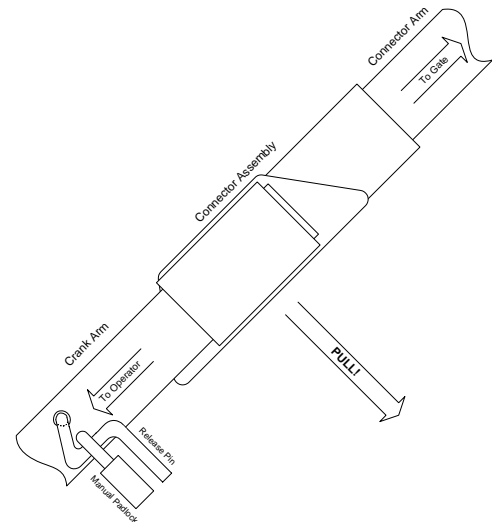
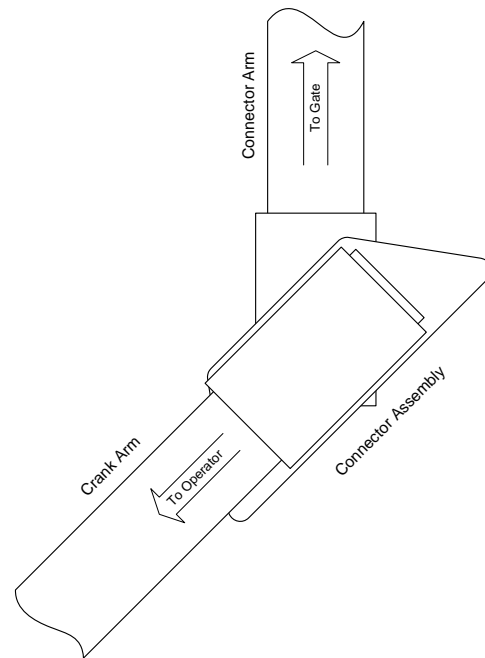

Figure 38
Figure 39
1. Pull the gate arm (figure 38) that is attached to the operator shaft away from the gate so that the knuckle joint is slightly "broken" (figure 39).
- Be sure that primary (AC) and backup (DC) power is removed or shut-off prior to placing the gate operator in manual operation.
- Unlock and remove the padlock on the operator crank arm (figure 38) and then pull the release pin.